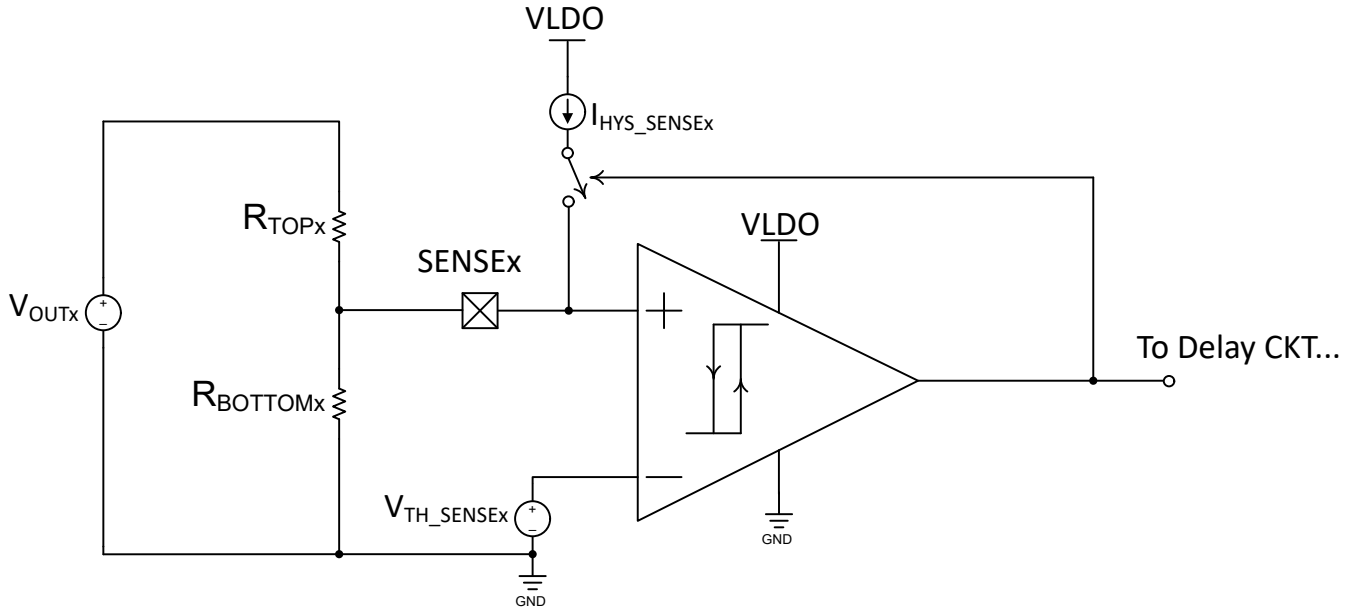

Figure 7-2. SENSEx Comparators Inputs
The TPS7H3014 sequencer integrates four under-voltage (UV) comparators, with an accurate ($\pm 1\%$) threshold voltage (V_{TH_SENSEx}) of 599mV nominal. V_{TH_SENSEx} is measured at the ENx outputs to account for comparator offsets in the threshold. Maximum flexibility is provided as external resistive dividers can be adjusted to sense any voltage rail (V_{OUTx}). Figure 7-2 shows a conceptual diagram of the comparators connected to the SENSEx inputs. As can be observed, the sensed voltage rail (V_{OUTx}) is attenuated (using an external resistive divider, R_{TOPx} and $R_{BOTTOMx}$) and compared against the V_{TH_SENSEx} voltage. It is recommended to maintain the steady-state SENSEx voltage below 1.6V, in order to maintain the threshold (V_{TH_SENSEx}) accuracy.
The TPS7H3014 has a built-in hysteresis current of 24 μ A with an accuracy of $\pm 3\%$ (with $R_{HYS} = 50k\Omega$). The hysteresis current is equivalent to $REFCAP/R_{HYS}$. A tolerance of 0.1% for the R_{HYS} is recommended as it ultimately affects the hysteresis current accuracy. This current is mirrored internally across all SENSEx inputs. This hysteresis current becomes active when the SENSEx voltage is greater than the threshold voltage (599mV $\pm 1\%$), same as $V_{OUTx} > V_{ONx}$ (Refer to Equation 3 and Figure 7-2). This current (I_{HYS}) multiplied by the R_{TOPx} resistance induces a voltage (V_{HYSx}) that is added to the SENSEx node, effectively boosting (incrementing) the node voltage. During sequence down, or an undervoltage event when the V_{OUTx} is decrementing, it will need to drop below the V_{OFF} voltage in order to be considered as an out of regulation (or fault). The hysteresis voltage is defined as: